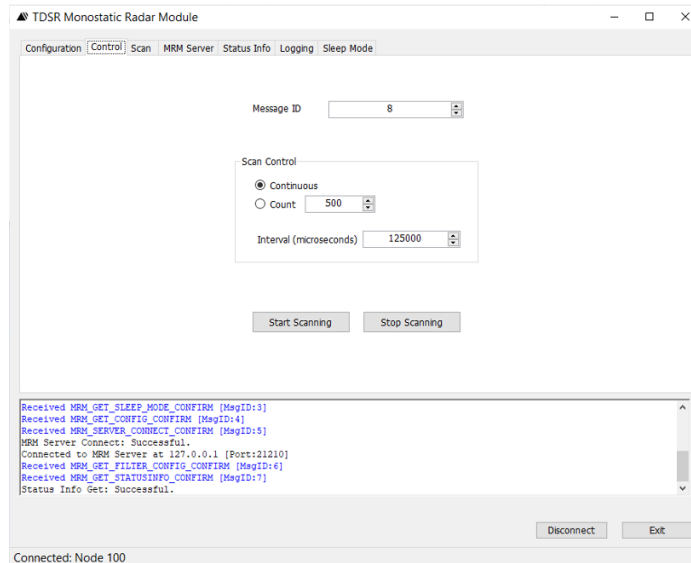

Fig. 11: MRM Control Tab
1. In the MRM application, click on the Control tab. (See **Figure 11**.)